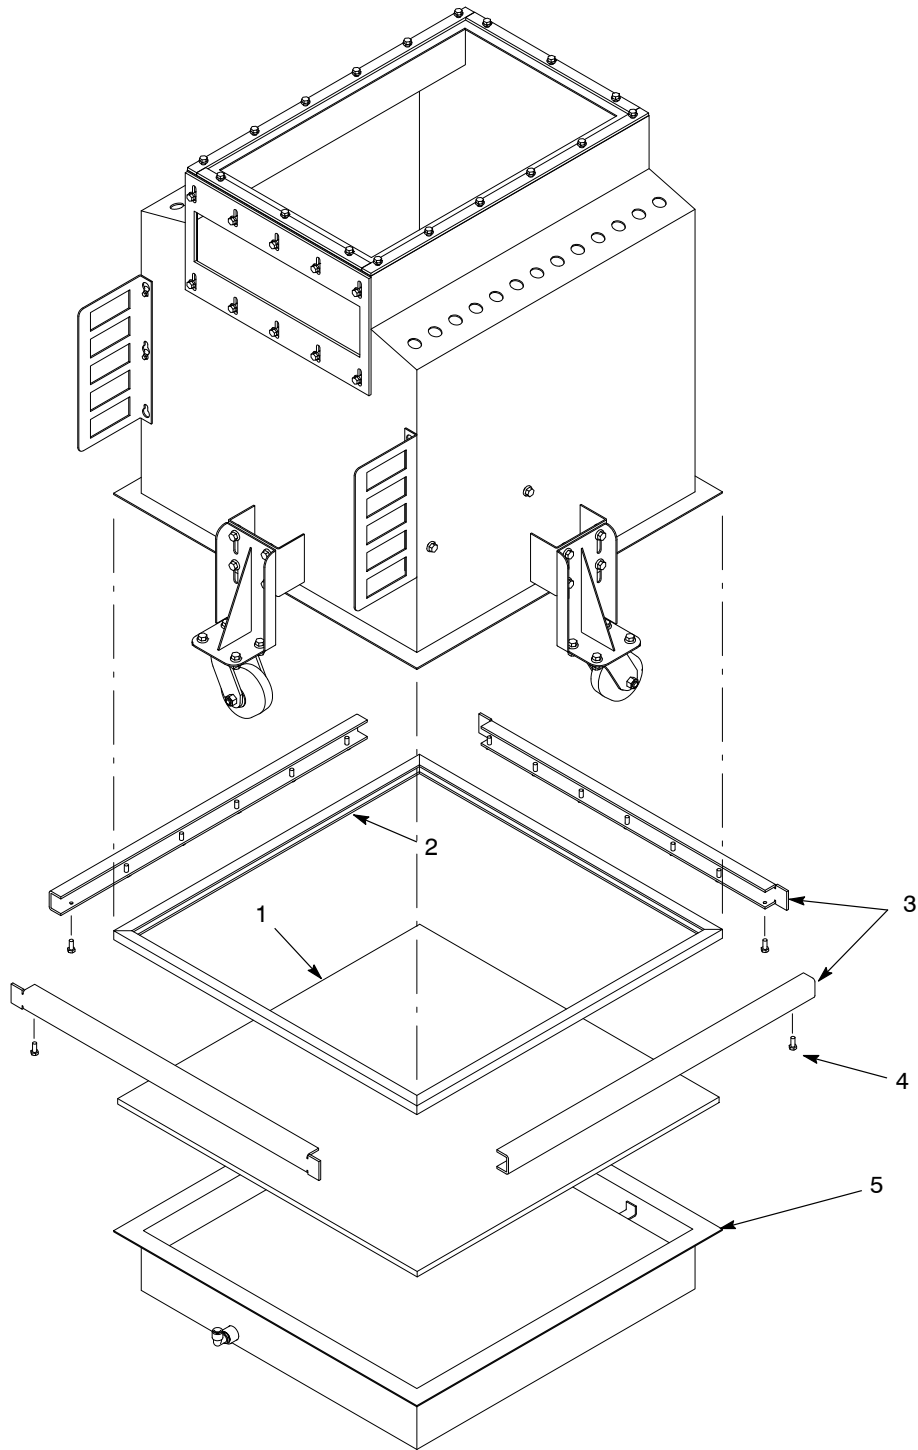

Figure 6-4 Feed Hopper Fluidizing Plate Replacement – HTM-16 and HTM-26 Hoppers, shown without lid
1. See Figure 6-4. Block up the plenum (5) so the plenum and feed hopper flanges will not bend when you start removing the clamping channels (3).
2. Loosen screws (4) about 6–10 mm (0.25–0.375 in.) to clear the gasket (2). Remove the clamping channels.
3. Remove the plenum and the fluidizing plate (1) from under the feed hopper. Remove the U-gasket from the fluidizing plate and inspect it. If it is not damaged, worn, or cracked, it can be re-used.